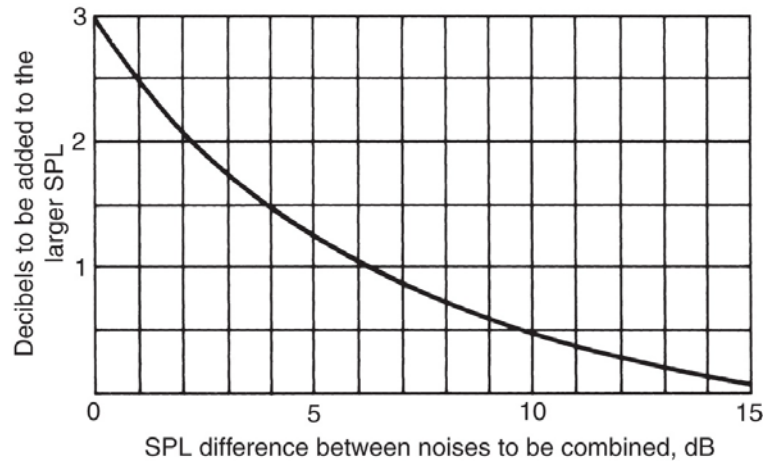

Figure 14-4 (from textbook): addition of decibels values when combining two or more sound level
- Entering the curve in Figure 14-4 with a difference of 0, read a corresponding 3 dB value on the vertical axis.